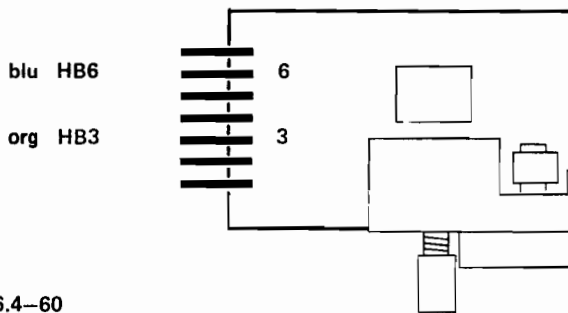

Fig. 6.4–60
- Oscillator frequency is measured with digital counter or oscilloscope. The frequency is 120 kHz (  $\pm 5$  kHz ) and is measured at orange HB3 and blue HB6 ( fig. 6.4 –60 ) against ground. ( Oscilloscope: 12 oscillations per 100  $\mu$ sec ).